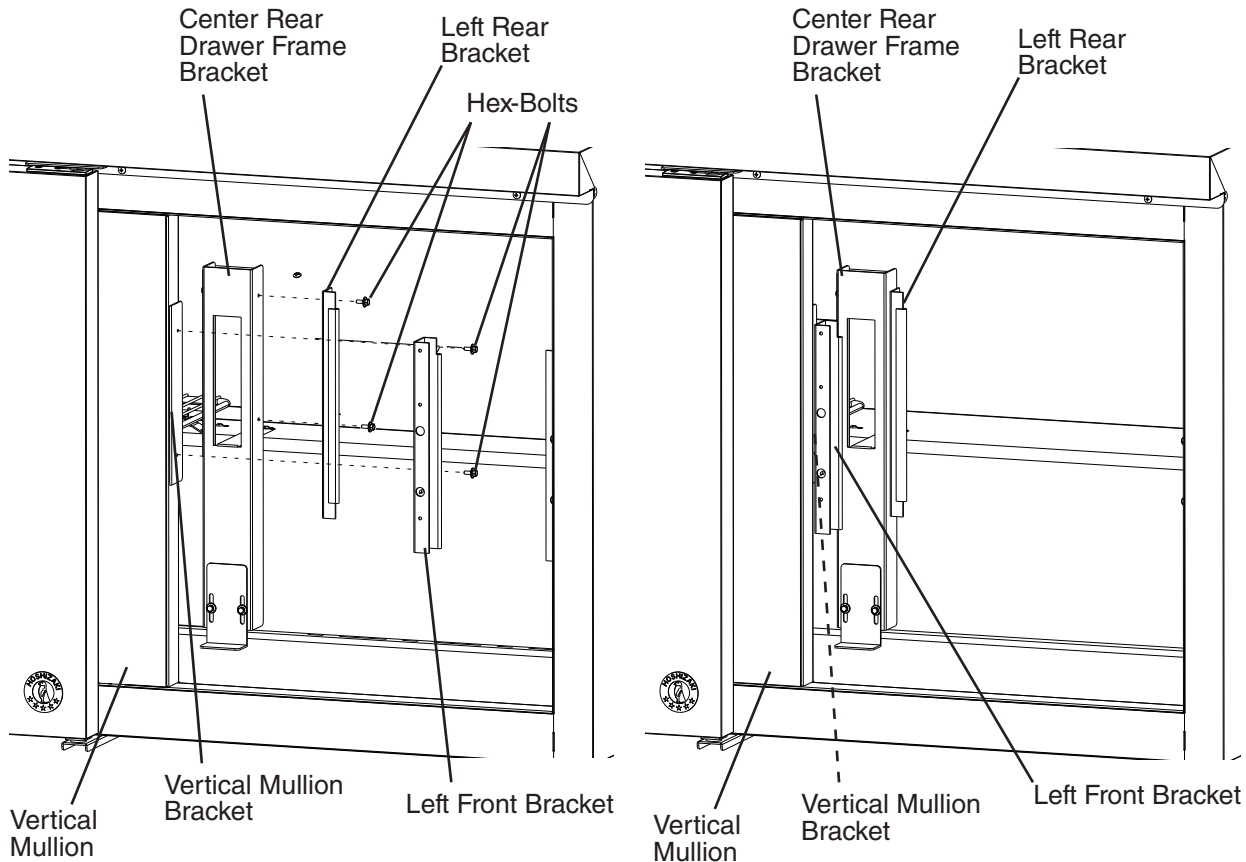

**Fig. 36**
- 20) Place the left rear bracket in place on the center rear drawer frame bracket with hex-bolts removed in step 4. Leave loose, do not tighten at this time. See Fig. 36.
- 21) Place the left front bracket in place on the vertical mullion bracket with the hex-bolts removed in step 4. See Fig. 36. Leave loose, do not tighten at this time.